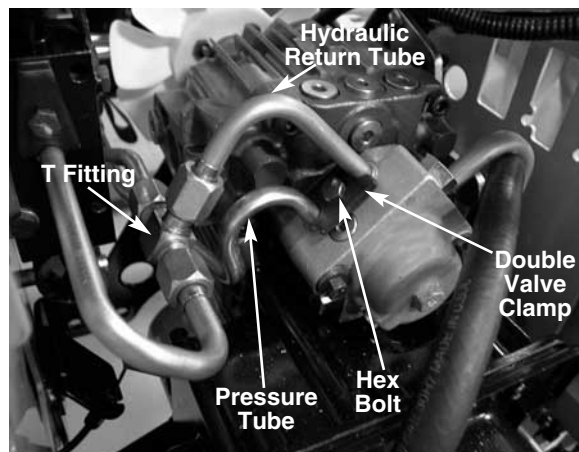

FIGURE 1.
10. Remove the hex bolt securing the double valve clamp on the charge pump using an 11mm swivel socket. See figure 1.
11. Remove the hydraulic return tube from the "T" fitting using an 18mm wrench. See figure 1.
12. Remove the hydraulic steering pressure tube from the charge pump. See figure 1.